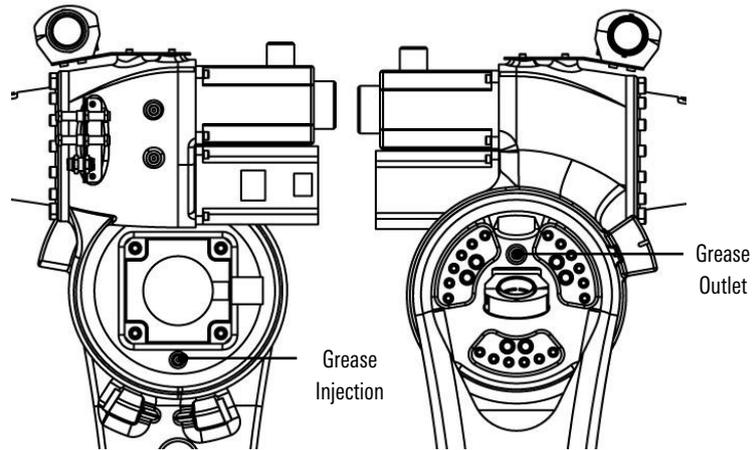

Figure 13-6 Replace the lubricating grease of J3 axis reducer13
- Remove the grease outlet M10x1 plug, as shown in Figure 13-6.